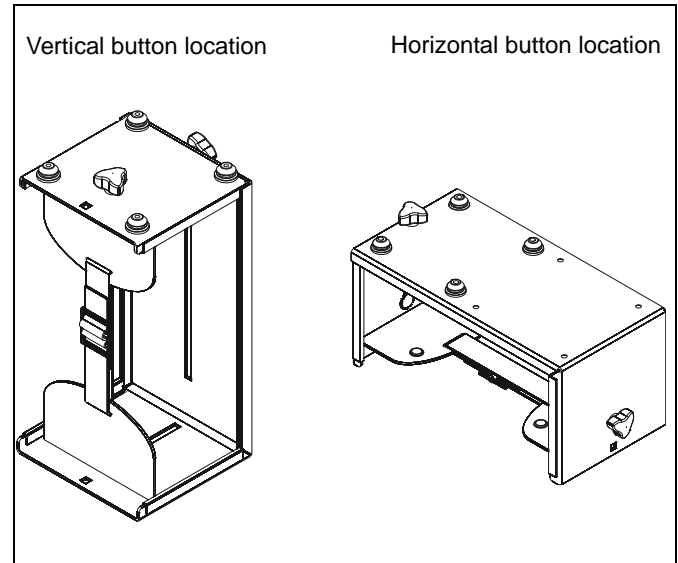

Figure 3
- If mounting vertically, move mounting buttons in the four holes on top of the mount. (See Figure 3)
- If mounting horizontally, move mounting buttons in the top four holes on the back. (See Figure 3)